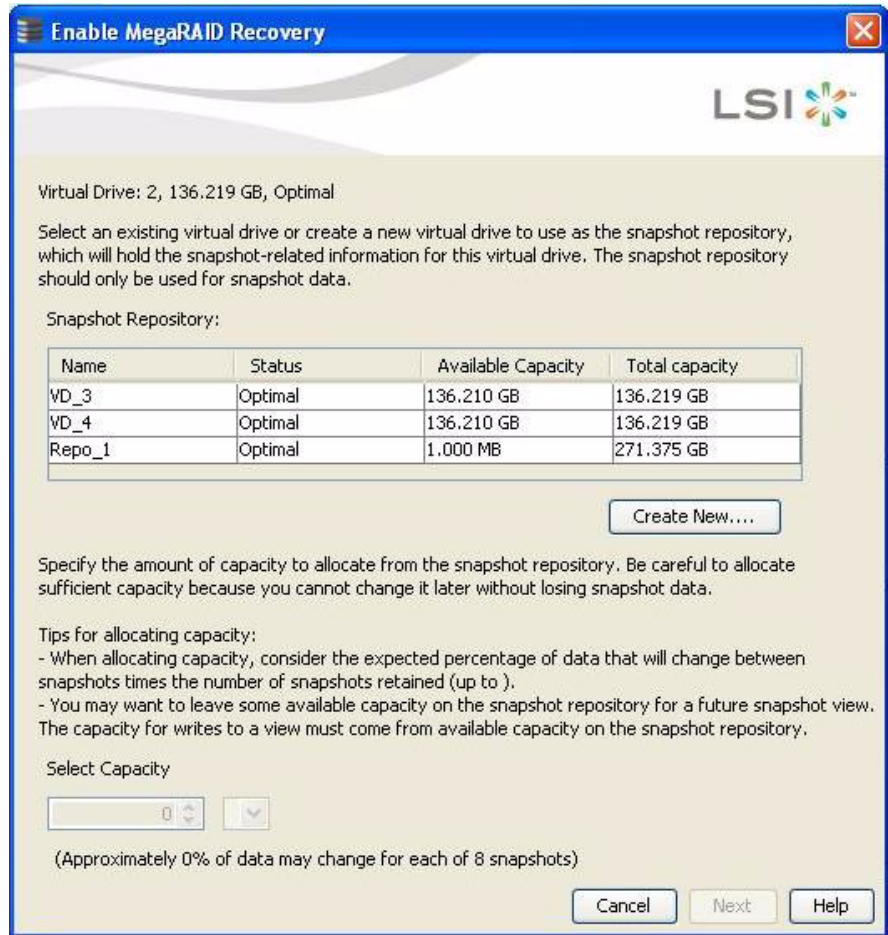

Figure 287: Enable MegaRAID Recovery Wizard
The Enable MegaRAID Recovery wizard appears, as shown in Figure 287. This wizard allows you to select the virtual drive to use as the snapshot repository.
- Select the virtual drive to use as the snapshot repository in the **Snapshot Repository** field from the **Enable MegaRAID Recovery** wizard as shown in Figure 287.
NOTE: Refer to the tips provided for allocating capacity in Figure 287.